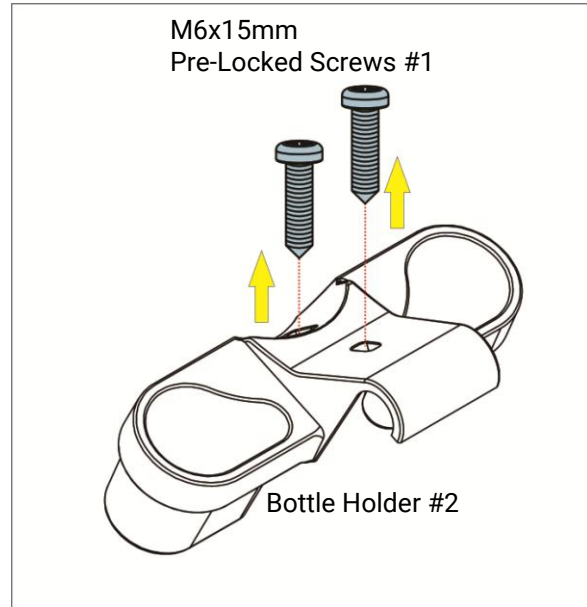

Fig 2.5-8A
- 1) Unscrew the (2) **M6x15mm Pre-Locked Screws #1** from the **Bottle Holder #2**. (Fig 2.5-8A)